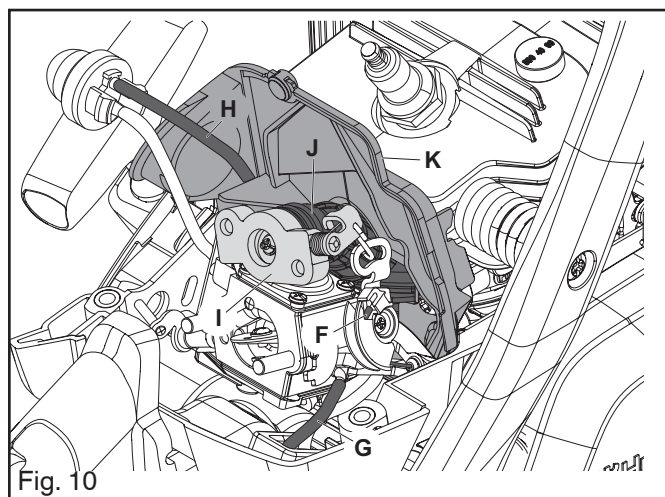

Fig. 10
8. Remove the throttle wire (F). See Figure 10.
9. Remove the fuel hose (G) and suction hose (H) from carburettor. See Figure 10.
10. Pull out the air valve (I) from the inlet pipe (J). See Figure 10.
5. Attach the throttle wire (F) to the carburettor as outlined in Figure 10.
6. Attach the fuel hose (G) to the carburettor as outlined in Figure 10.
7. Attach the suction hose (H) to the carburettor as outlined in Figure 10.